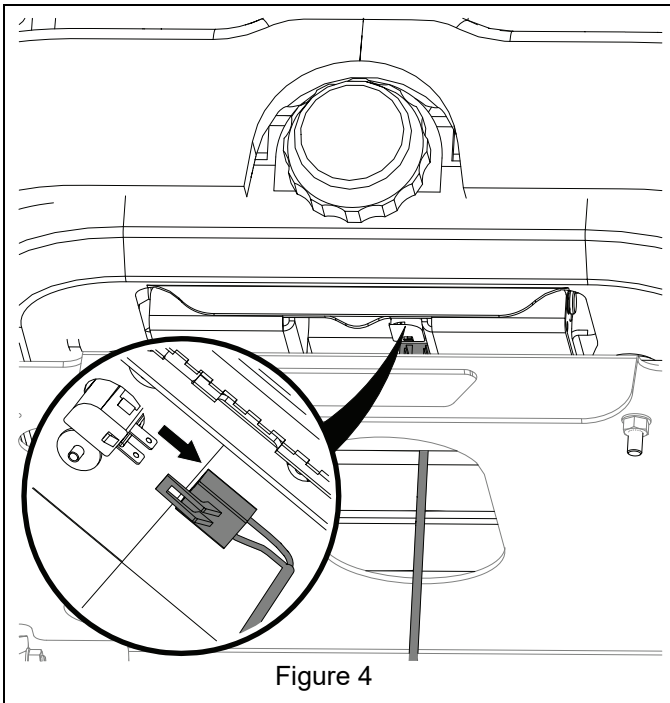

Figure 4
4. Disconnect seat switch jumper harness from seat switch on bottom of seat. See Figure 4.